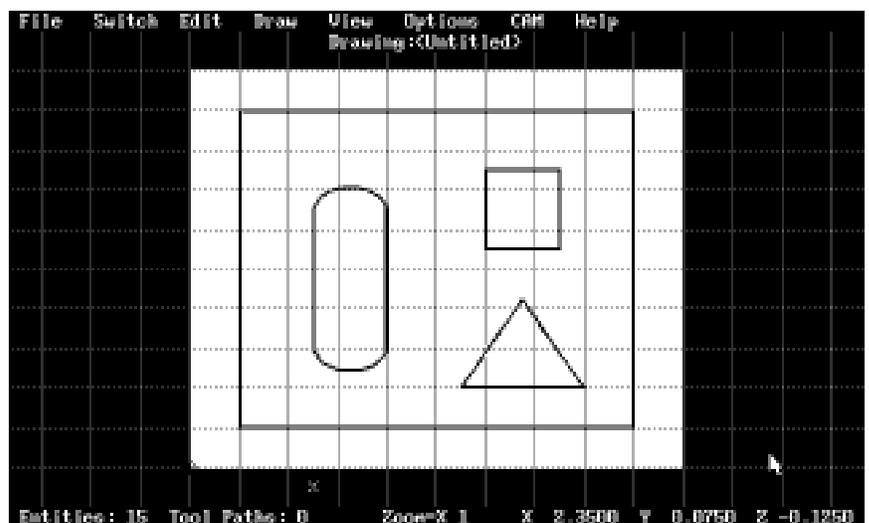

Figure 4.1.3 Completed Part Profile
10. Position the *START MARKER* at X0.5, Y1.3. Move the mouse arrow to X0.8, Y1.3 and press the <LMB>. You will see a second small cross on the screen, these are the two end points of the arc. Now move the mouse arrow to X0.65, Y1.4 and press the <LMB>. You now have an arc on the screen, but does it have the correct radius? You can find out by pressing  on the keyboard, select the arc with the mouse, and select [OK]. Change the radius of the arc to 0.156" by choosing **Edit-Change Radius** and then selecting the arc. Enter 0.156 and choose [ACCEPT]. The arc should now have the correct radius. Position the *START MARKER* at X0.5, Y1.3 and choose **Edit-Copy** with mouse and select the arc. Position the *START MARKER* at X0.5, Y0.6 and choose **Edit-Paste** with the mouse. A copy of the arc is now at the opposite end of the island. To flip the second arc, press <F> and select the arc with the mouse. The drawing is now complete. See **Figure 4.1.3**.